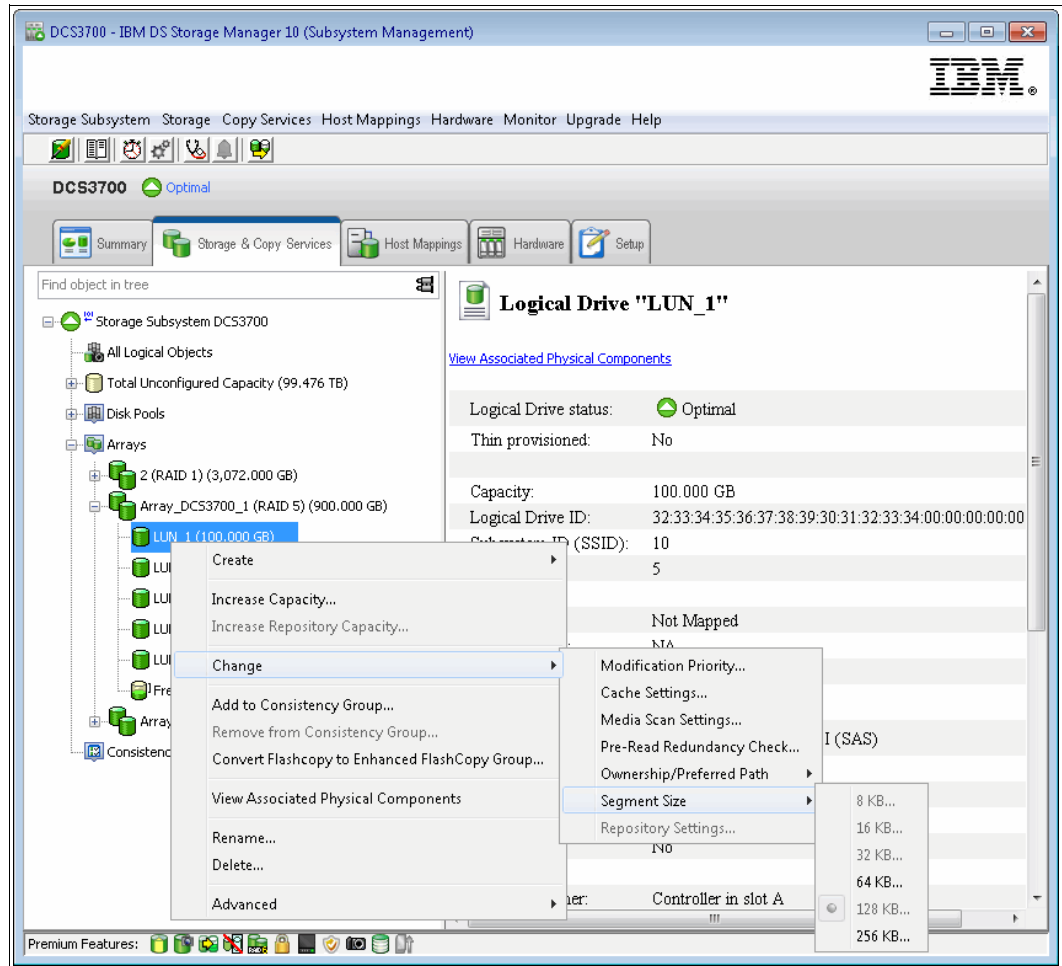

Figure 8-49 Change Segment Size menu
1. Select the logical drive in the Logical pane, right-click it, and select **Change** → **Segment Size** → **value**. The value that is highlighted in the menu is either twice or half of the current value, as shown in Figure 8-49 on page 276.